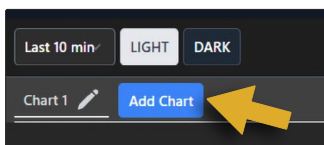

Figure 52
- a. Click the **Add Chart** button. See Figure 52.